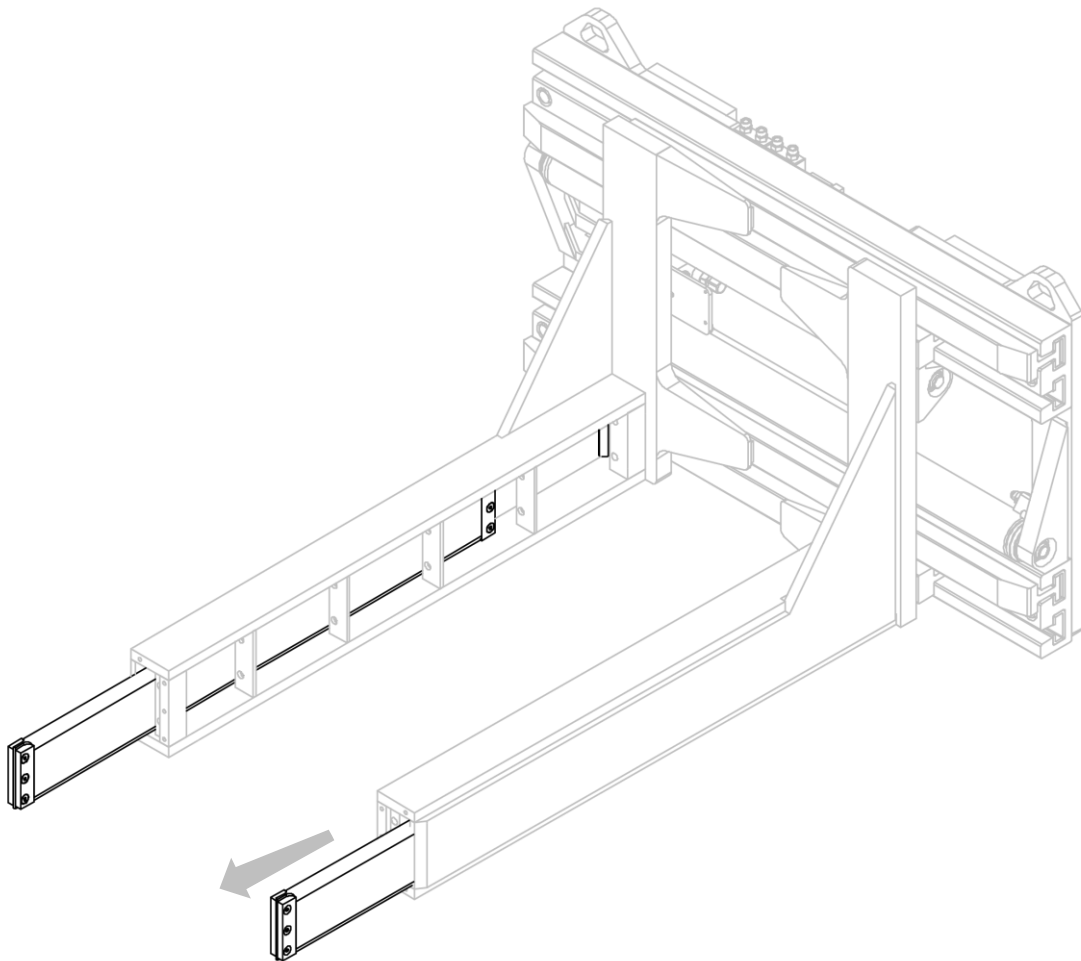

Figure 35
2. Remove the rubber buffers from their housings (see *Figure 35*).